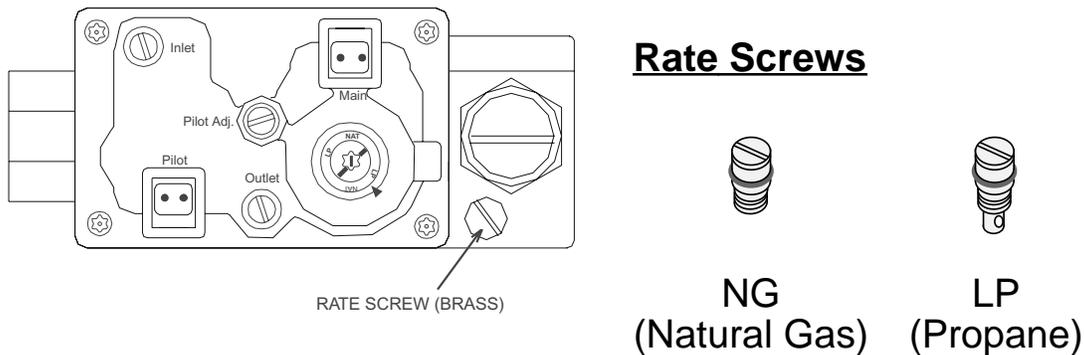

Figure 32
- Remove the NG rate screw and replace it with the LP rate screw included in the owner's pack (see Figure 32). Take care to not damage the rubber o-ring on the rate screw when installing.